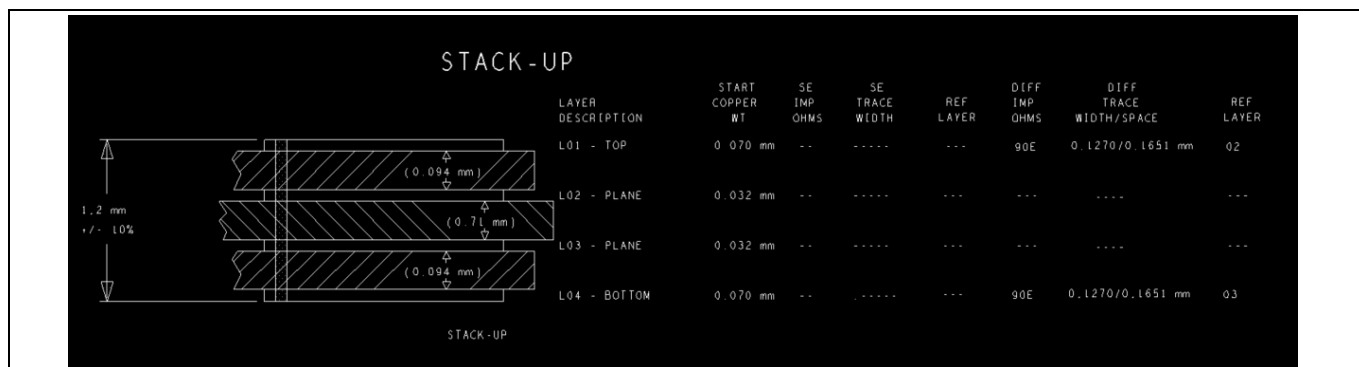

Figure 25 4-layer PCB stackup
Figure 25 shows the recommended stackup for a 1.2-mm thick PCB. The values of width (W) and spacing (S) are based on CY7110 EZ-PD™ PMG1-S0 prototyping kit.